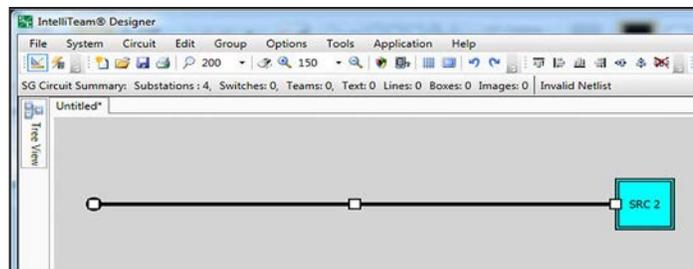

**Figure 44.** Release the mouse button over a termination point to make a connection.
**STEP 3.** Select the left termination point shown in Figure 37, and drag a wire over to SRC 2. Drag the mouse cursor until the termination point on SRC 2 becomes visible. While holding the mouse cursor over the SRC 2 termination point, release the mouse button to make the connection. See Figure 44.